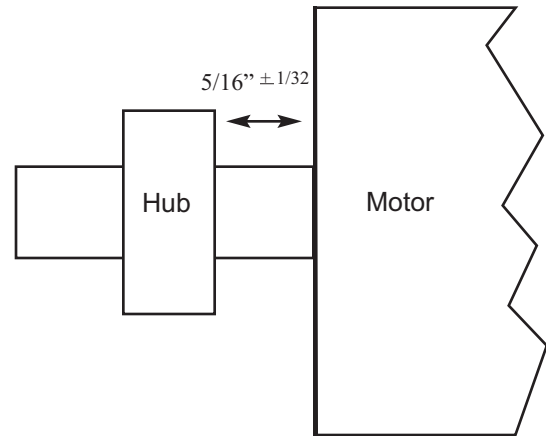

Figure 3
Refer to Figure 3.
3. Connect coil leads as outlined under "Connection of Coil Leads" and Fig. 3.